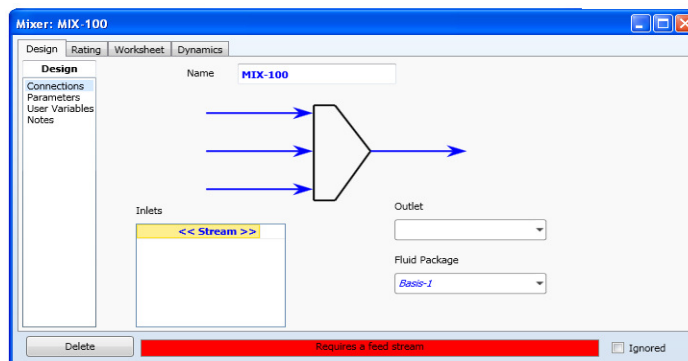

Figure 10: Mixer Property View
7.3.6 We can also use the filters to find and add an operation. For the mixer operation, select **Piping Equipment** button under the **Categories** . A filtered list appears in the **Available Unit Operations** group. Double click to install it. The mixer property view will appear as shown in Figure 10.